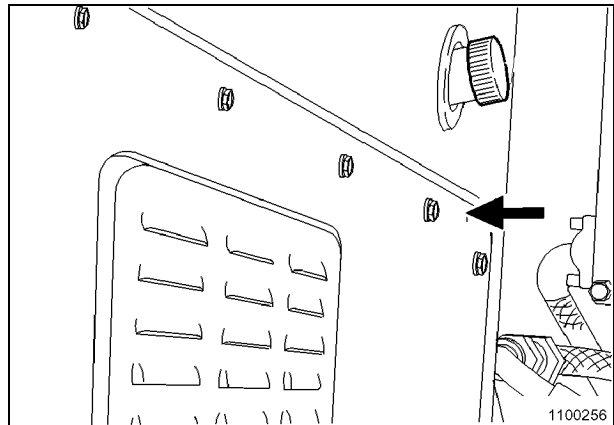

Fig. 1
- Remove rear wall of driver's cab (Fig. 1).